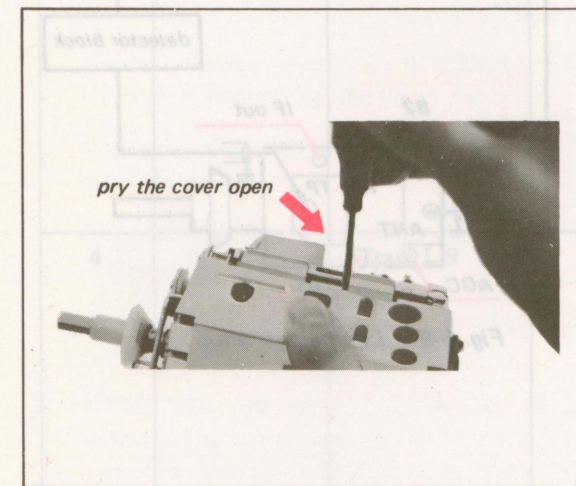

Fig. 5-2. Tuner cover removal (2)
2. Pry open the cover with a screwdriver. (See Fig. 5-2.)